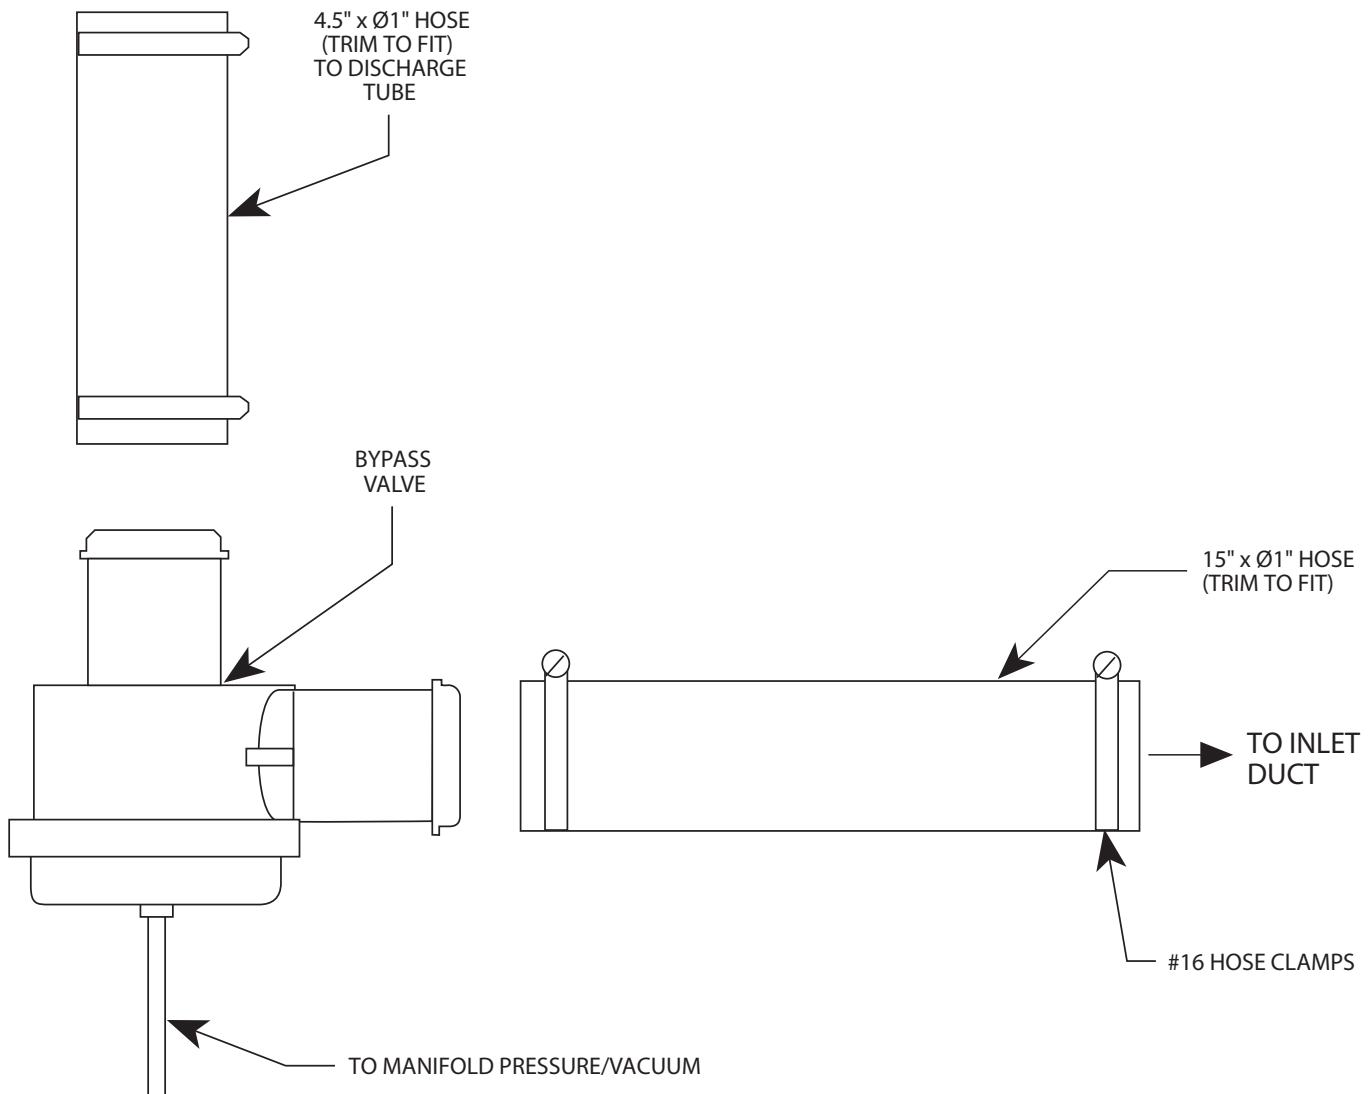

Fig. 3D-a
4. Attach the open end of the 4.5" hose to the by-pass port on the cast discharge duct and secure using a #16 hose clamp. The open end of the 15" long hose will be attached to the inlet duct in a later step. (See Fig. 3D-a, 3D-d.)